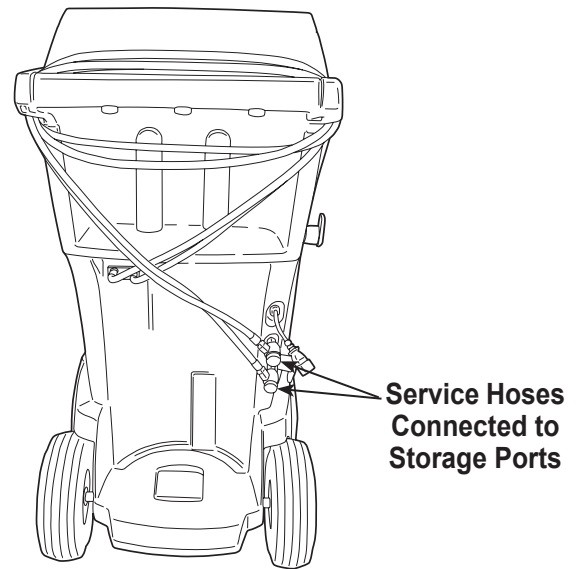

Figure 1
2. When prompted, connect the service hoses from the machine to their storage ports as shown in Figure 1 and turn coupler valves clockwise to open valves.